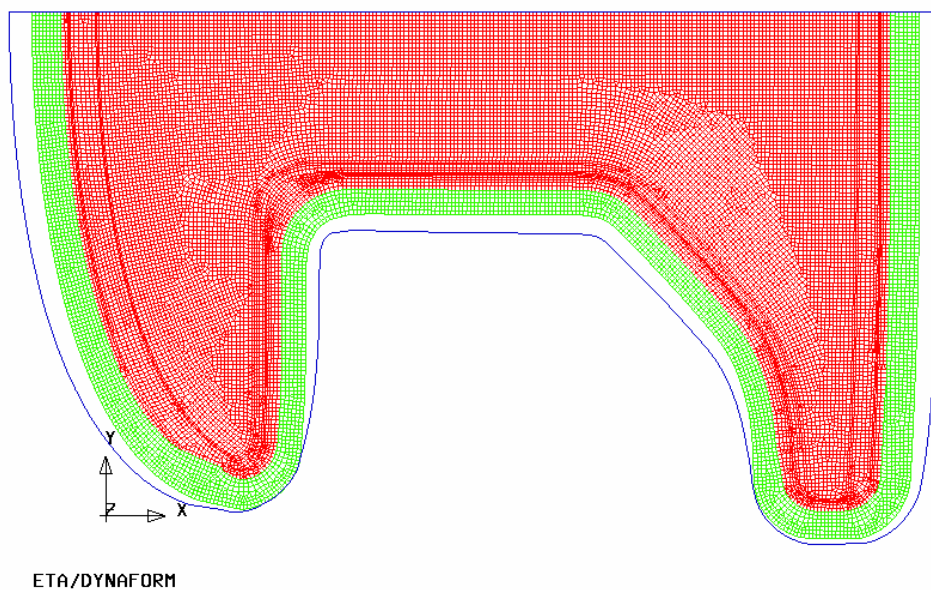

Figure 3.47: Illustration of the result
1. Close the ETA/Post-Processor, and automatically return to the DYNAFORM pre-processor interface as shown in the following figure 3.47.